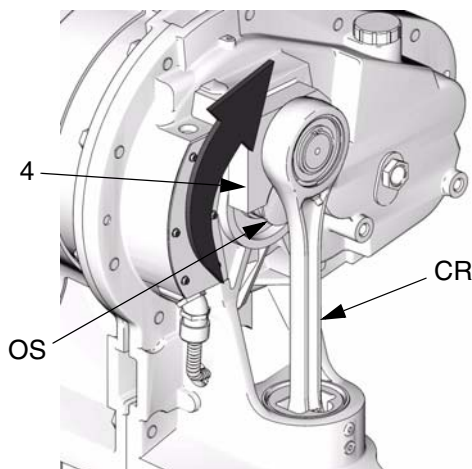

FIG. 7. Rotate Crank Arm
- See FIG. 7. Rotate the crank arm (4) to allow it to be removed from the output shaft (OS).